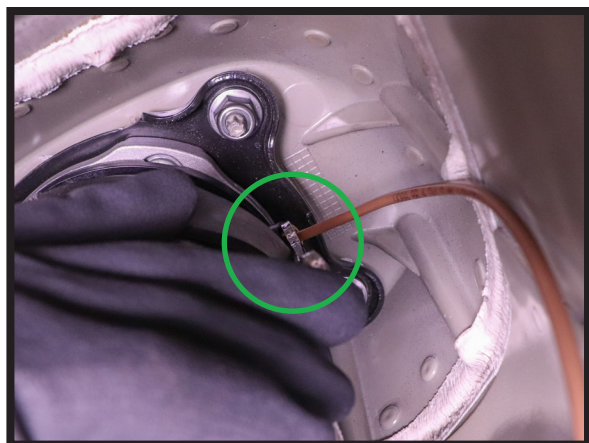

FIGURE 3
3. REMOVE AIR LINE FROM THE STRUT. REMOVE OLD AIR FITTING AND DISCARD. (FIGURES 3, 4, 5)